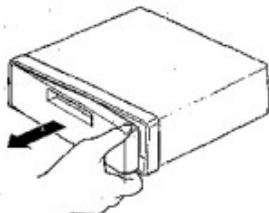

Fig. 18
2. To remove the front panel, pull its right-hand side toward you. (Fig. 18)